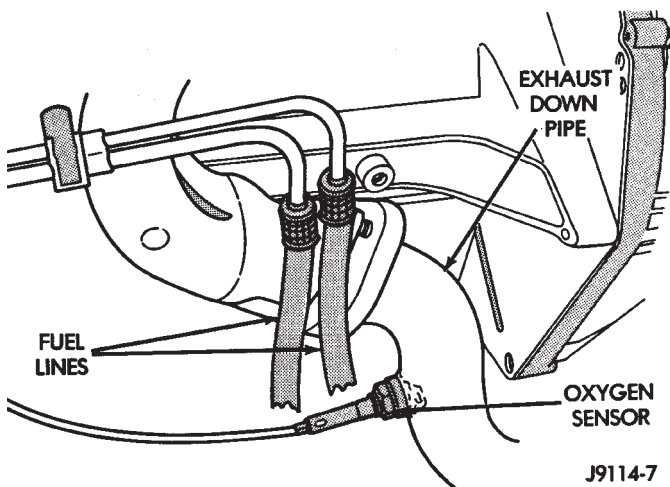

Fig. 13 Oxygen Sensor Location—Typical
(21) Verify that Oxygen Sensor wire connector is firmly connected to the sensor. Inspect sensor and connector for damage (Fig. 13).